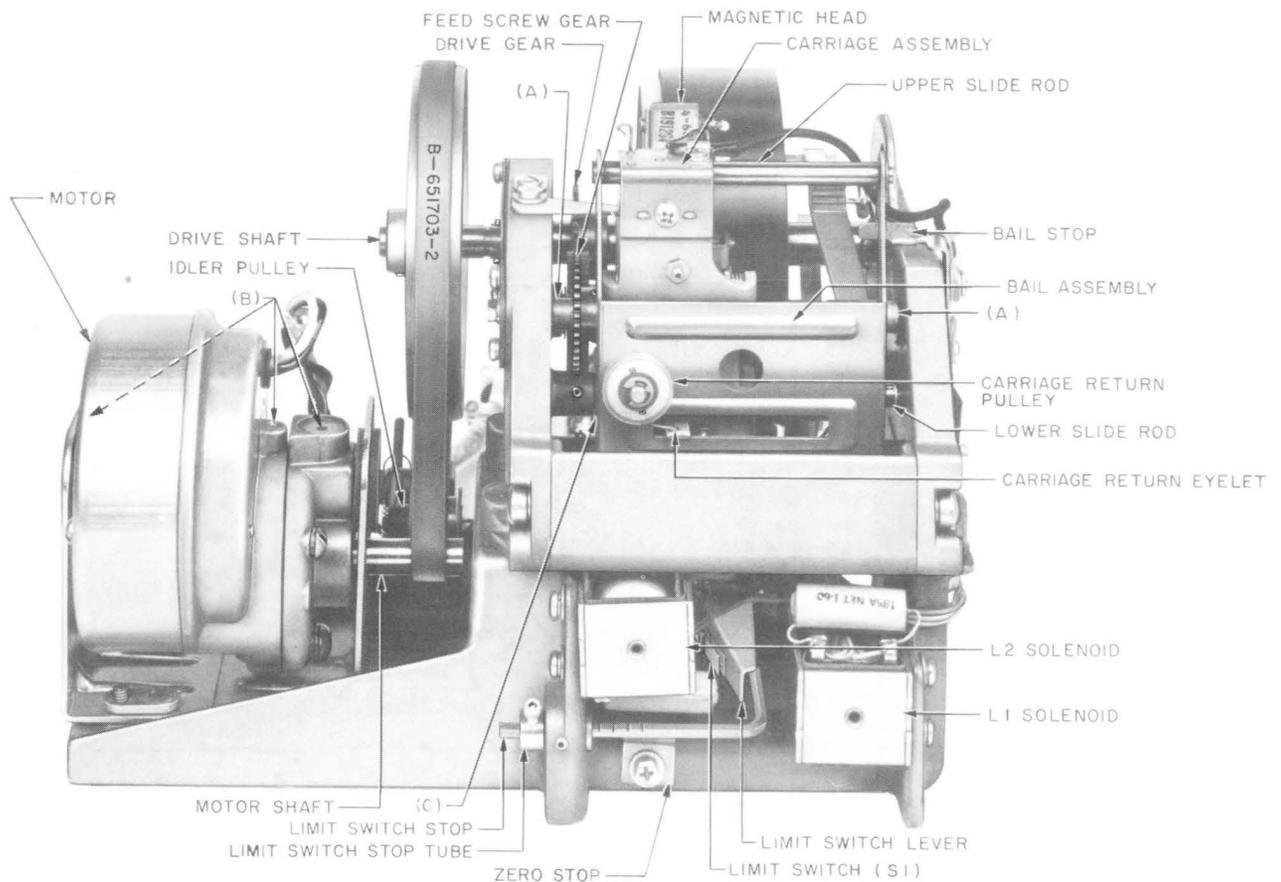

Fig. 2—KS-16765 L3 Recorder—Front View (Earlier Type Shown)
- (a) **Switch Contacts:** The switch contacts (Fig. 2 and 3) shall be cleaned when necessary in accordance with approved procedures.
- (a) **KS-15914 L1 Motor Bearings:** Two drops of ♦KS-16326 L1♦ oil to each of the three oil reservoirs [Fig. 2, (B)] through the three holes provided in the motor housing.
- (a) In the unoperated position, S1 switch (Fig. 2) contacts shall have a separation between contacts of